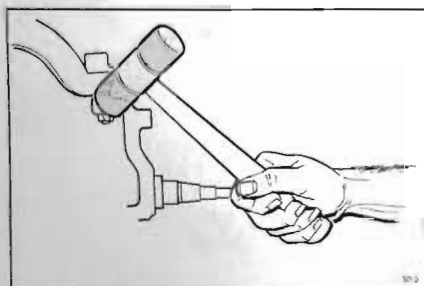

Figure 30-5—Separating Steering Knuckle From Ball Joint
5. Rap steering knuckle sharply in area of ball stud to allow force of chassis spring to disengage tapered stud from knuckle. See Figure 30-5.